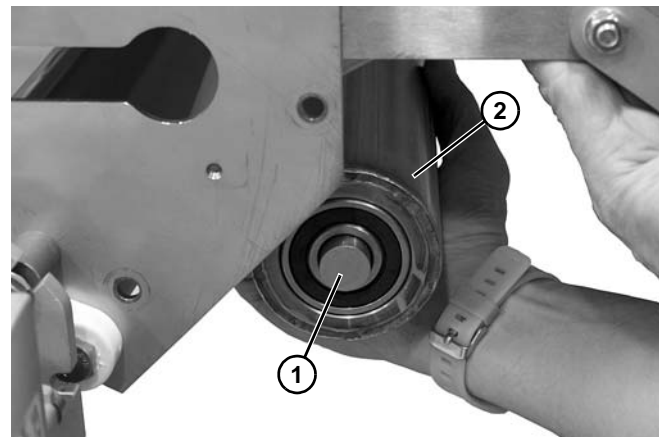

Figure 99
9. Slide shaft (**Figure 99, item 1**) into the tensioner pulley (**Figure 99, item 2**). Remove the tensioner pulley.